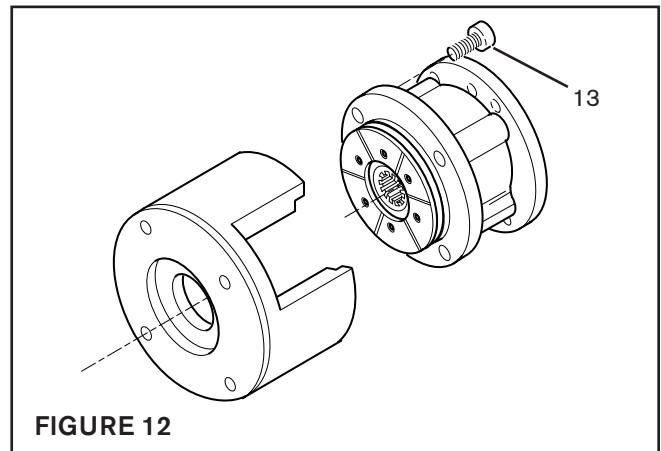

FIGURE 12
1. Remove Socket Head Cap Screws. (Item 13) and separate two halves of FMC (See Fig. 12).